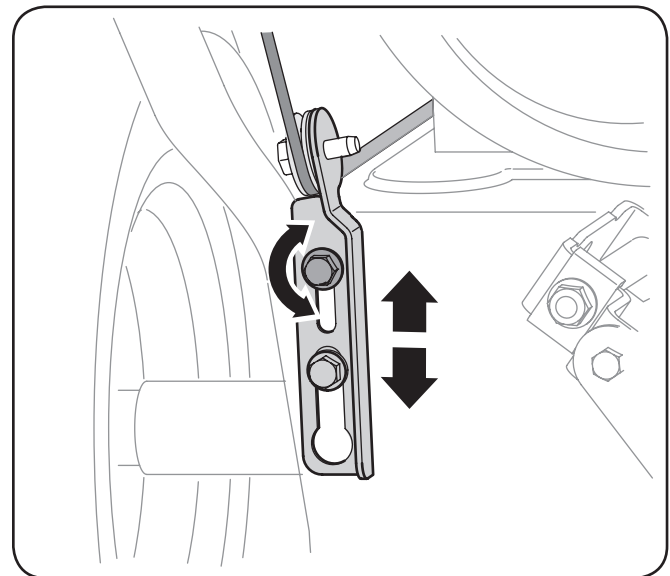

Figure 3-15
4. Allow the auger to remain engaged for approximately ten (10) seconds before releasing the auger control. Repeat this several times.
7. To readjust the control cable, loosen the upper hex screw on the auger cable bracket. See Figure 3-15.